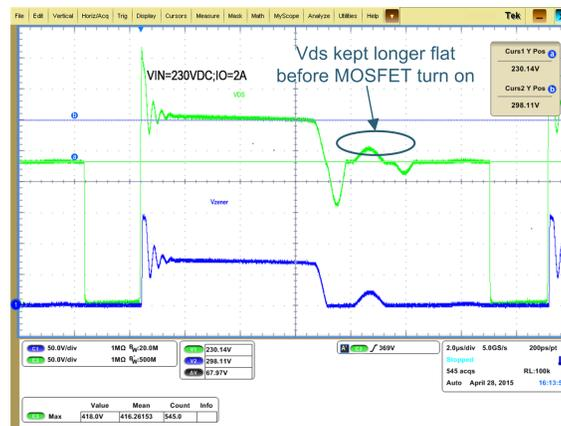

Figure 12. Very Quick Resonant Decay Caused by Improper Snubber Design
**Phenomenon:** When very low standby power is required and switching frequency is very low, a TVS snubber must be used. With a TVS snubber, improper selection of slow clamp diode will cause a very quick decaying as shown in Figure 12. For a detailed explanation of this issue, see *Choosing Standard Recovery Diode or Ultra-Fast Diode in Snubber (SNVA744)*.